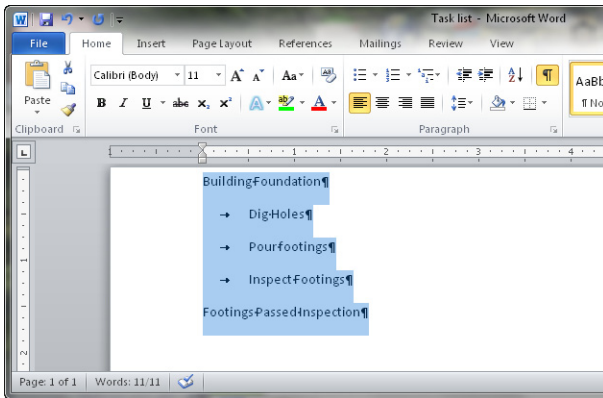

FIGURE 4-5 Select the tasks that you want to paste into Project 2010 in a Word 2010 document or an Outlook 2010 email message.
1. To paste tasks into Project, open the Word document or Outlook email and select the tasks that you want to paste into Project (see Figure 4-5).